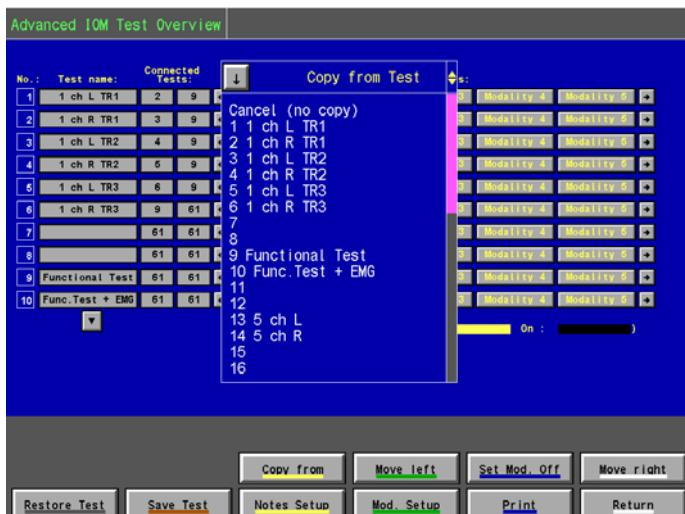

Figure 98 Copy fromTest
**Copy from:** Copy from Test offers the possibility to copy another test from the list into the current test see Figure 98 above.